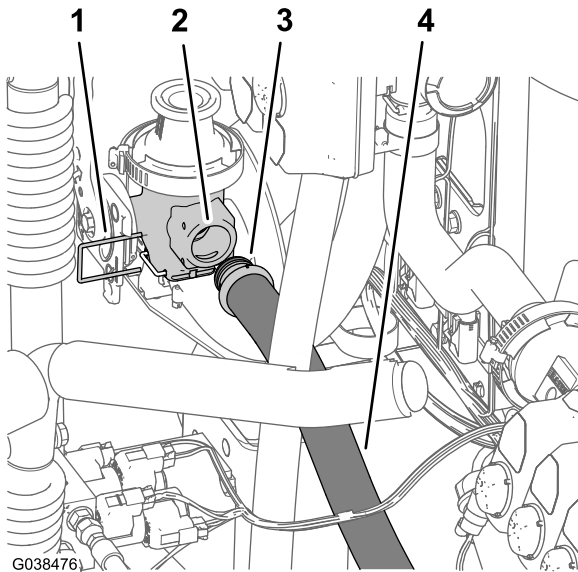

Figure 73
1. Assemble the straight barbed fitting of the lower supply hose—25 x 66 cm (1 x 25-3/4 inches) into the port of the educator-shutoff valve (Figure 73).